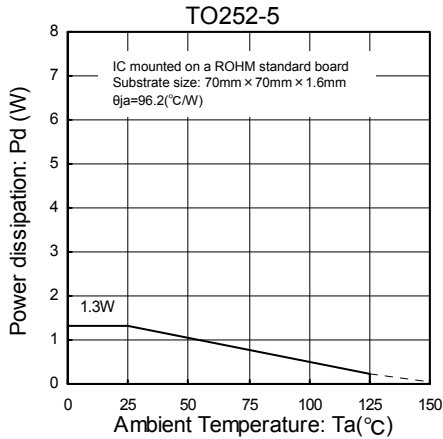

Fig. 15
Refer to the heat mitigation characteristics illustrated in Figs. 15 ~ 18 when using the IC in an environment where $T_a \geq 25^\circ\text{C}$. The characteristics of the IC are greatly influenced by the operating temperature. If the temperature is in excess of the maximum junction temperature T_{jmax} , the elements of the IC may be deteriorated or damaged. It is necessary to give sufficient consideration to the heat of the IC in view of two points, i.e., the protection of the IC from instantaneous damage and the maintenance of the reliability of the IC in long-time operation.
In order to protect the IC from thermal destruction, it is necessary to operate the IC not in excess of the maximum junction temperature T_{jmax} . Fig. 15,16 illustrates the power dissipation/heat mitigation characteristics for the TO252 package. Operate the IC within the power dissipation P_d . The following method is used to calculate the power consumption P_c (W).